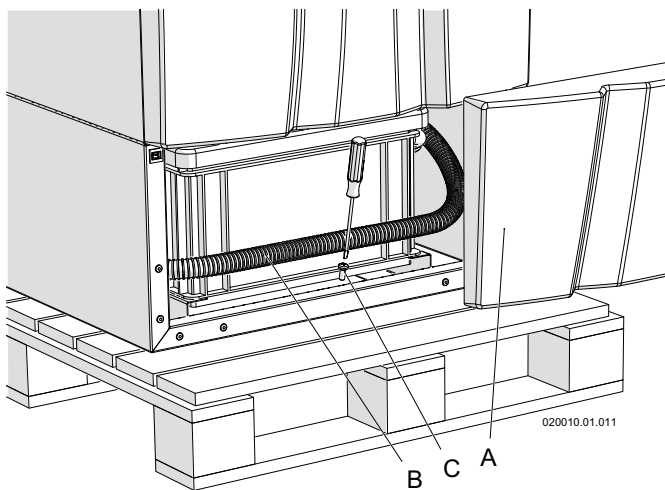

Figure 6-1 Remove heater from wood pallet
2. Remove the front door (see Section 15.2) to access the screw "C" (Figure 6-1) in front of the unit